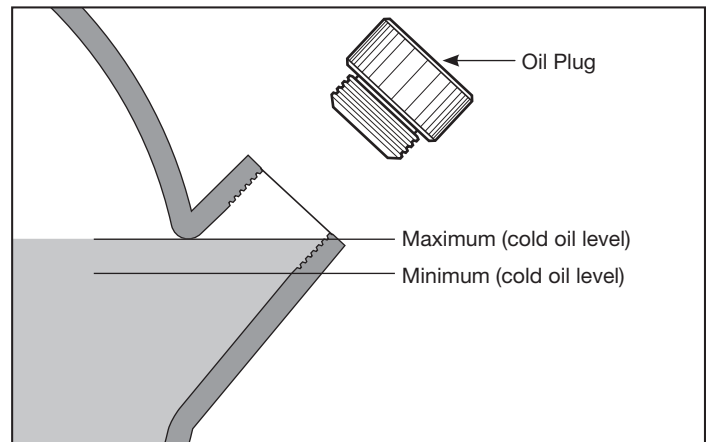

Figure 7 - Oil Level
CAUTION THIS UNIT CONTAINS OIL. Before operating compressor, check oil level (see Figure 7).
OIL LEVEL CHECK (See Figure 7)
5. If necessary, top off oil of the same oil type and the same brand up to the maximum level (see Figure 7 and Lubrication section).
1. Check oil level (See Figure 7).